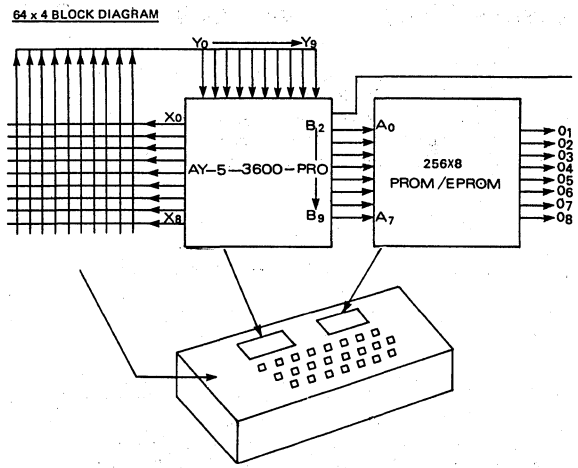

Fig.8 64 KEY 4 MODE KEYBOARD APPLICATION
The 64 key 4 mode application as illustrated in Fig. 8 utilized keyboard encoder addresses X0 Y0 thru X6 Y3. A unique combination of one input (Y) and one output (X) is assigned to each key, for a total coverage of 64 keys. Binary coded outputs B2-B9 have been arranged to provide the necessary 8-bit address inputs to the PROM/EPROM, with B2 and B3 representing the variable mode identification and B4-B9 each specific key closure.